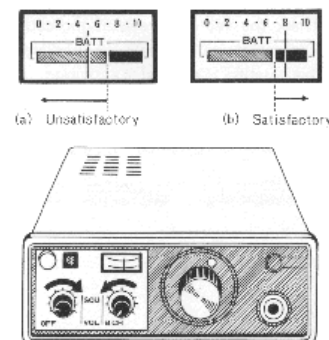

Fig 5 Voltage Check
3. If the deflection is within the shadowed area as shown in Fig. 5-(a), it indicates that the battery is insufficient for satisfactory operation and requires the replacement of the cells if the throw-away type or recharging if the rechargeable type (nickel-cadmium battery). See Section 2-4 for charging. When an external power supply is connected, the meter will automatically indicate the voltage of the external supply.